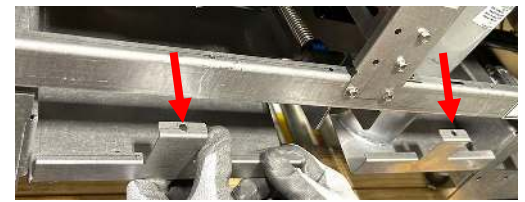

Figure 2
3. Pull the taps off the frame, drop down and lift the rear of the filter pan lid up and off the tabs at the rear of the fryer (see Figure 2).